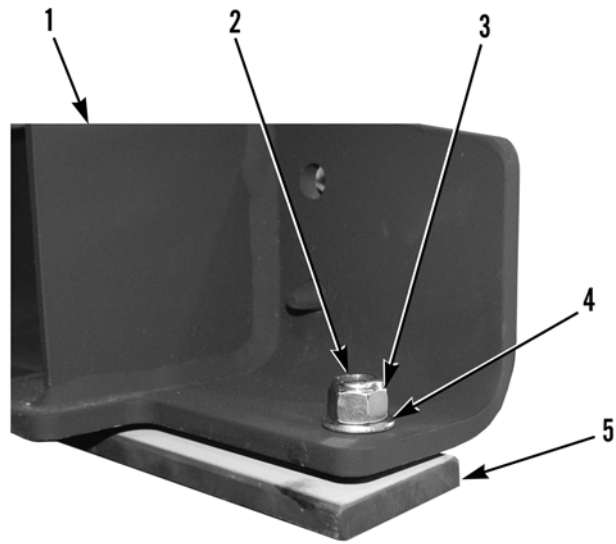

Figure 23. PLS Stowage Assembly Spacers.
7. Install two spacers (Figure 23, Item 5), four bolts (Figure 23, Item 2), washers (Figure 23, Item 4), and locknuts (Figure 23, Item 3) on legs of stowage assembly (Figure 23, Item 1).